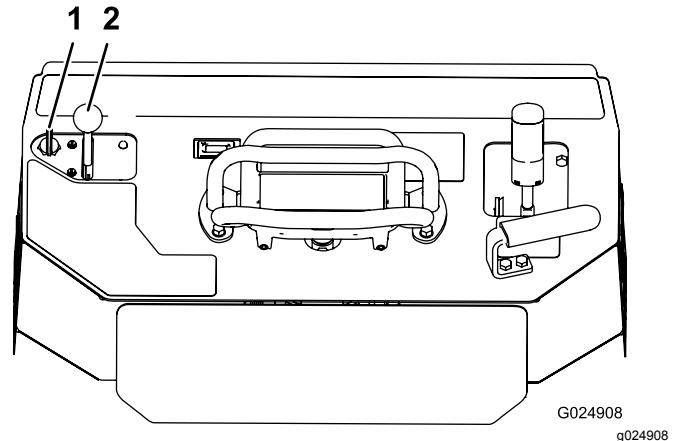

Figure 18
1. Move the throttle lever midway between the SLOW and FAST positions (Figure 18).
2. Turn the key to the ON position (Figure 18). When the engine starts, release the key.
3. Move the throttle lever to the desired setting (Figure 18).
2. Move the throttle lever to the SLOW position (Figure 18).